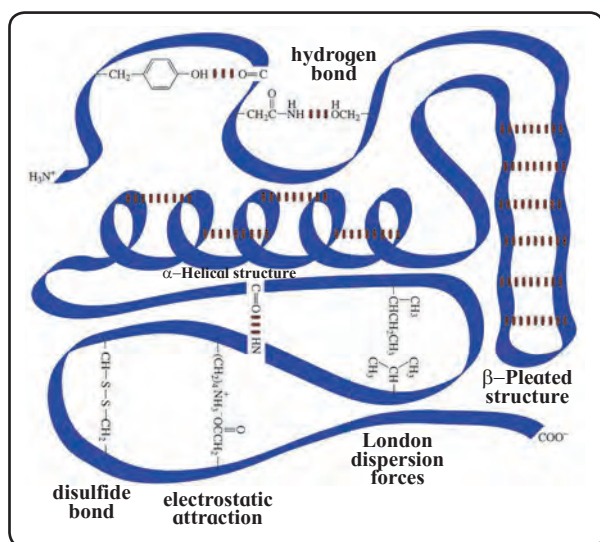

Fig. 14.21 : Tertiary structure of protein
c. Tertiary structure of proteins : The three-dimensional shape adopted by the entire polypeptide chain of a protein is called its tertiary structure. It is the result of folding of the chain in a particular manner that the structure is itself stabilized and also has attractive interaction with the aqueous environment of the cell. The **globular** and **fibrous** proteins represent two major molecular shapes resulting from the tertiary structure. The forces that stabilize a particular tertiary structure include **hydrogen bonding**, **dipole-dipole attraction** (due to polar bonds in the side chains), **electrostatic attraction** (due to the ionic groups like -COO^- , NH_3^+ in the side chain) and also **London dispersion forces**. Finally, **disulfide bonds** formed by oxidation of nearby -SH groups (in cysteine residues) are the **covalent bonds** which stabilize the tertiary structure (Fig. 14.21).